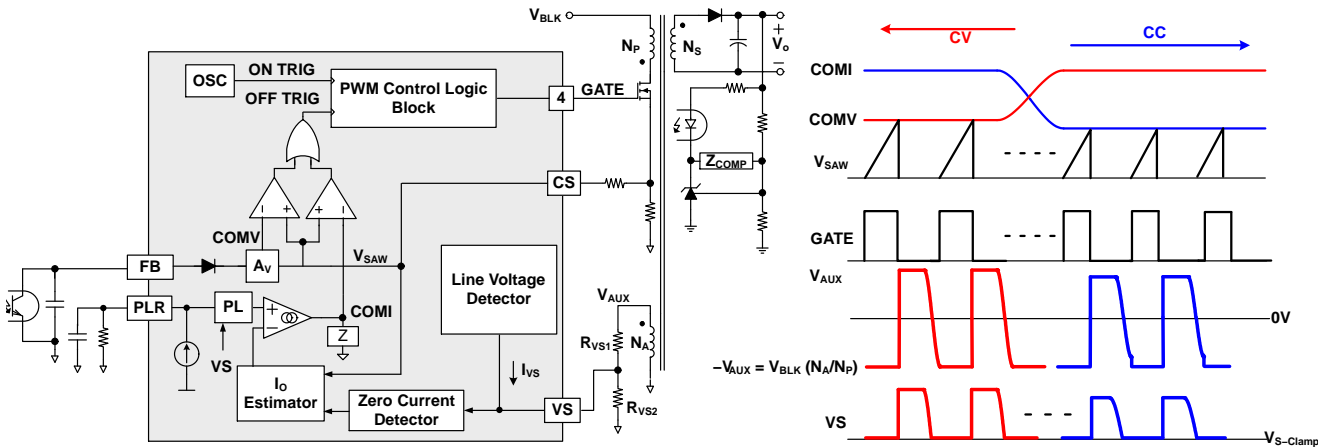
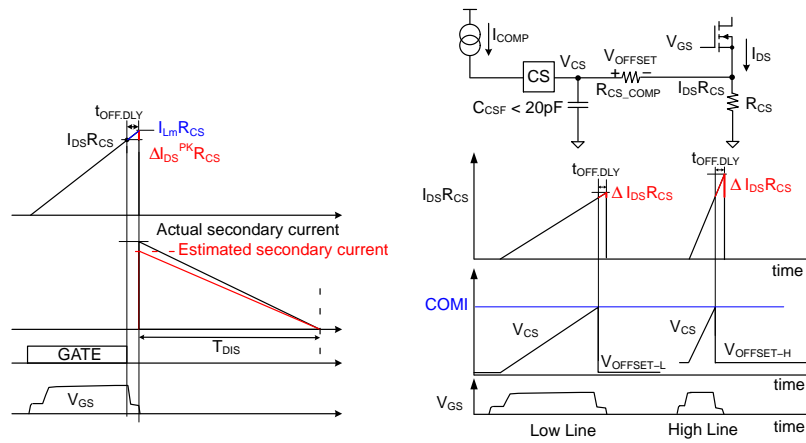

Figure 27. Simplified PWM Control Circuit and PWM Operation for CV/CC Regulation
Figure 29. Effect of MOSFET Turn-off Delay and Line Voltage Compensation
Figure 27 shows a simplified CV / CC PWM control circuit of the FAN604P. The Constant Voltage (CV) regulation is implemented in the same manner as the conventional isolated power supply, where the output voltage is sensed using a voltage divider and compared with the internal reference of the shunt regulator to generate a compensation signal. The compensation signal is transferred to the primary side through an opto-coupler and scaled down by attenuator A_V to generate a COMV signal. This COMV signal is applied to the PWM comparator to determine the duty cycle.
These two control signals, COMV and COMI, are compared with an internal sawtooth waveform (V_{SAW}) by two PWM comparators to determine the duty cycle. Figure 27 illustrates the outputs of two comparators, combined with an OR gate, to determine the MOSFET turn-off instant. Either of COMV or COMI, the lower signal determines the duty cycle. During CV regulation, COMV determines the duty cycle while COMI is saturated to HIGH level. During CC regulation, COMI determines the duty cycle while COMV is saturated to HIGH level.
The output current estimation is also affected by the turn-off delay of the MOSFET as illustrated in Figure 29. The actual MOSFET's turn-off time is delayed due to the MOSFET gate charge and gate driver's capability, resulting in peak current detection error as
Where L_m is the transformer's primary side magnetizing inductance. Since the output current error is proportional to the line voltage, the FAN604P incorporates line voltage compensation to improve output current estimation accuracy. Line information is obtained through the line voltage detector as shown in Figure 27. I_{COMP} is an internal current source, which is proportional to line voltage. The line compensation gain is programmed by using CS pin series resistor, R_{CS_COMP}, depending on the MOSFET turn-off delay, t_{OFF,DLY}. I_{COMP} creates a voltage drop, V_{OFFSET}, across R_{CS_COMP}. This line compensation offset is proportional to the DC link capacitor voltage, V_{BLK}, and turn-off delay, t_{OFF,DLY}. Figure 29 demonstrates the effect of the line compensation.